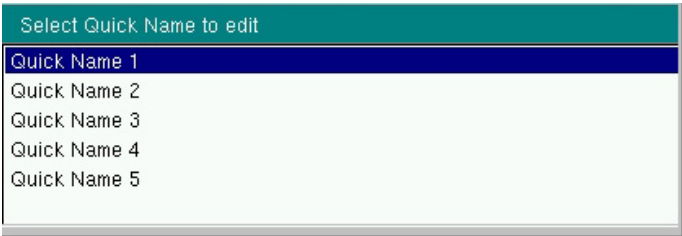
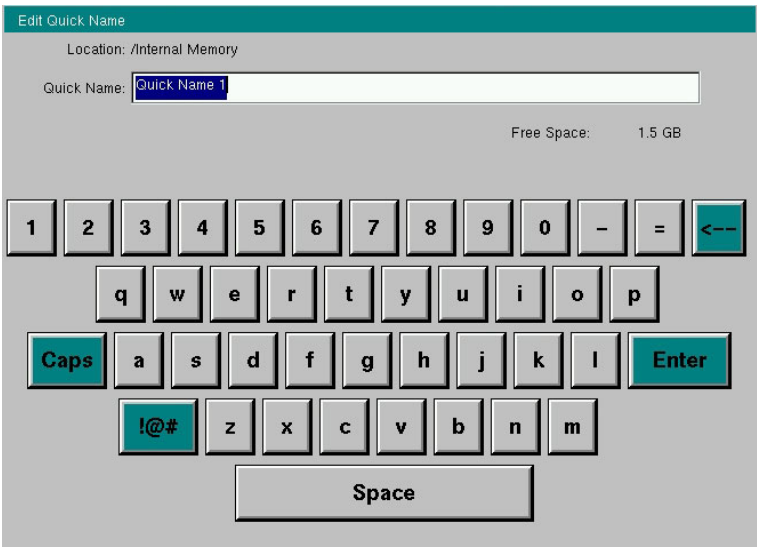

Figure 4-2. Select Quick Name List Box
Figure 4-3. Edit Quick Name Dialog Box
Quick Name keys in the Save dialog provide optional building blocks for entering file names. They function as keyboard shortcuts, allowing you to enter predefined, frequently used file names or parts of file names. To enter or change a Quick Name, press the **Change Quick Name** submenu key in the Save menu, then select the item to edit (see Figure 4-2) and press **Enter** on the numeric keypad. In the **Edit Quick Name** dialog, use the touch screen keyboard to enter a new Quick Name. See Figure 4-3. Press **Enter** again and the new name will be displayed on the key, in the Save dialog.
1. To edit any matrix key, press and hold the key until the Edit Quick Name dialog opens. See Figure 4-3 on page 4-4.